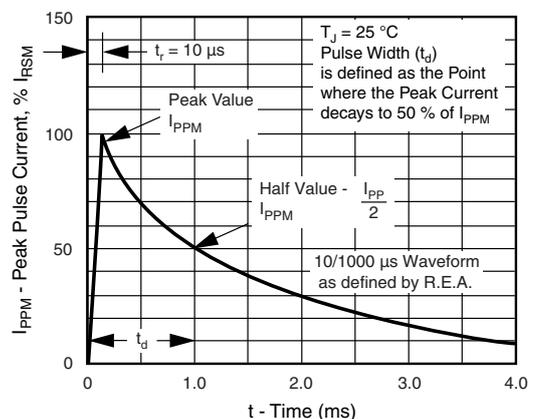
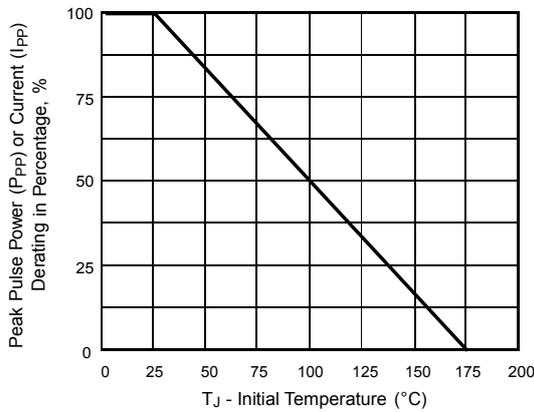

Fig. 3 - Pulse Waveform
Fig. 2 - Pulse Power or Current vs. Initial Junction Temperature
- (1) Pulse test: $t_p \leq 50 \text{ ms}$
- (2) Surge current waveform per fig. 3 and derate per fig. 2
- (3) For bi-directional types with V_{WM} of 10 V and less the I_D limit is doubled
- (4) All terms and symbols are consistent with ANSI/IEEE CA62.35